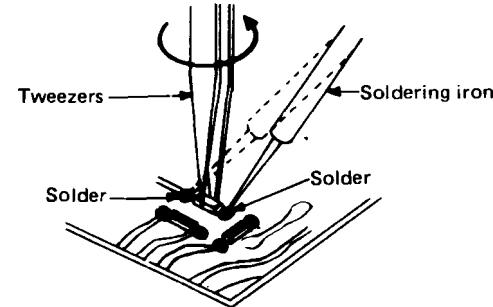

Fig. 20
2. Touch the soldering iron to the end of the chip as shown in Fig. 20, then turn the tweezers in the direction of the arrow.